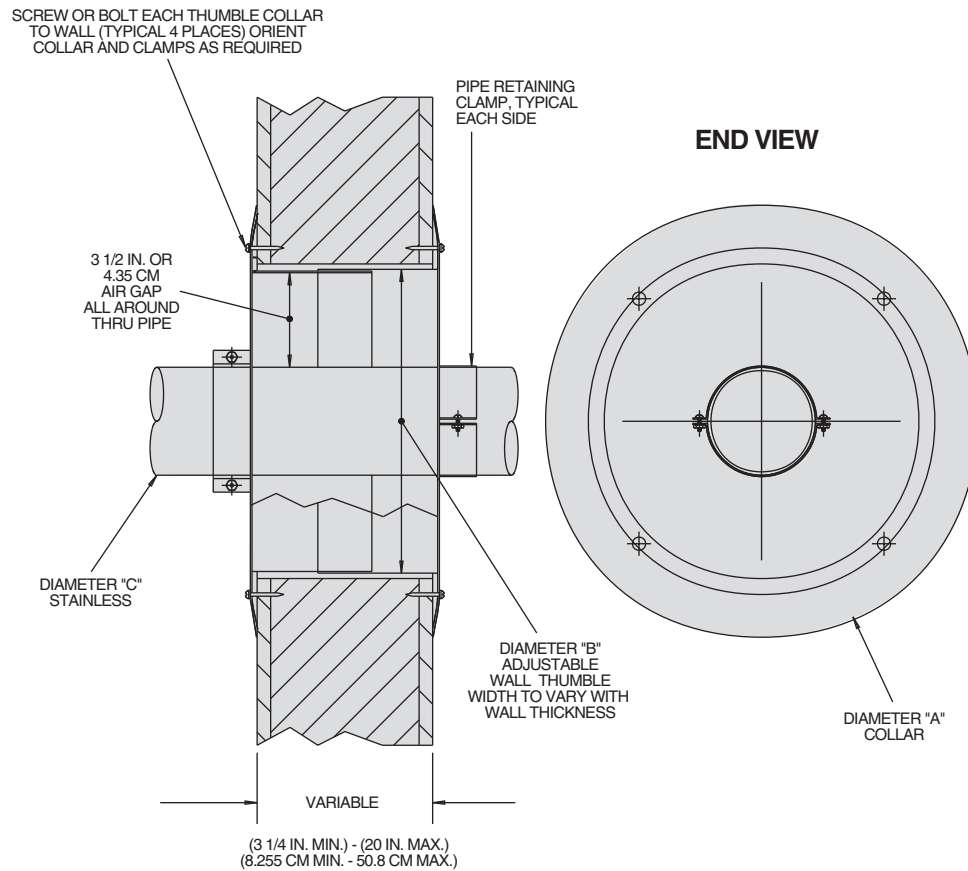

FIGURE 11 - WALL THIMBLE INSTALLATION
6. When penetrating a non-combustible wall, the hole through the wall must be large enough to maintain the pitch of the vent and provide sealing. Use adhesive material to seal around the vent on both sides of the wall. When penetrating a combustible wall, a wall thimble must be used. See Figure 11 for installation instructions. Minimum wall thickness through which vent system may be installed is 3.25 inches (82.5 mm). Maximum wall thickness through which vent system may be installed is 20 inches (508 mm).
Adhere to the following for installation (see Figure 11):